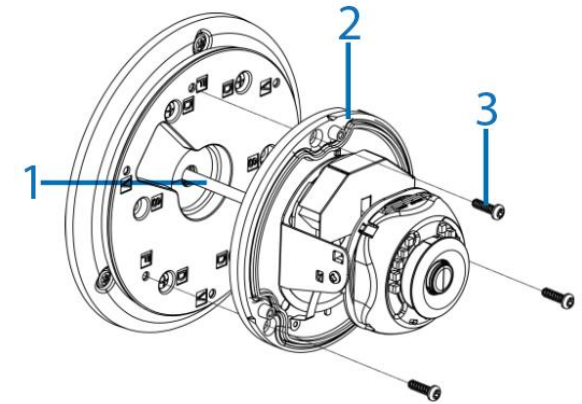

Figure 5
- Place the camera cable (1) (Figure 5) through the hole in the center of the adaptor plates.
- Hold the camera base (2) (Figure 5) up to the adaptor plates and align the three holes on the camera base with the three holes on the adaptor plates.
- Insert the three M4 x 0.7P x 10L screws (3) (Figure 5) into the three holes and securely attach the camera base to the adaptor plates.